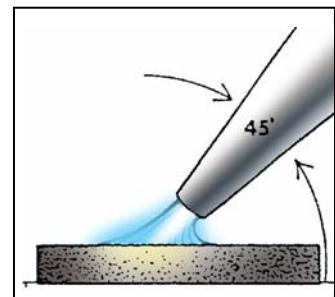

Figure 1
9. Start welding at one end, with the torch at a 45-degree angle and the inner flame cone approximately $1/8$ in. from the work. Refer to Figure 1.